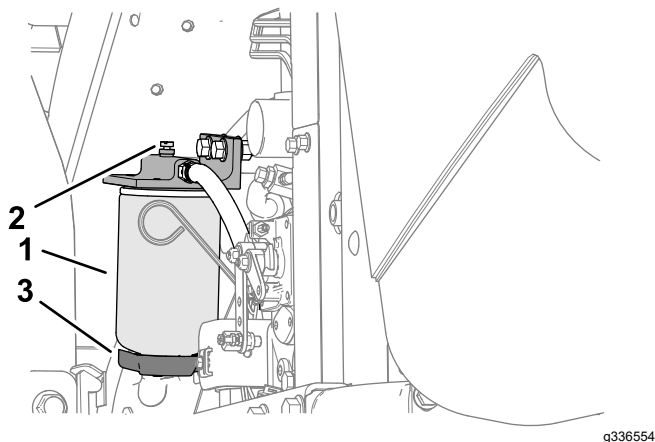

Figure 71
4. Loosen the drain valve on the bottom of the filter canister (Figure 71).
3. Clean the area where the filter canister mounts (Figure 71).